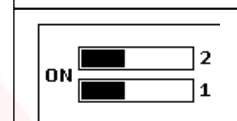

Fig. 13
- Set DIP 2 to ON position, if installed detection devices are NC type (Fig. 13);